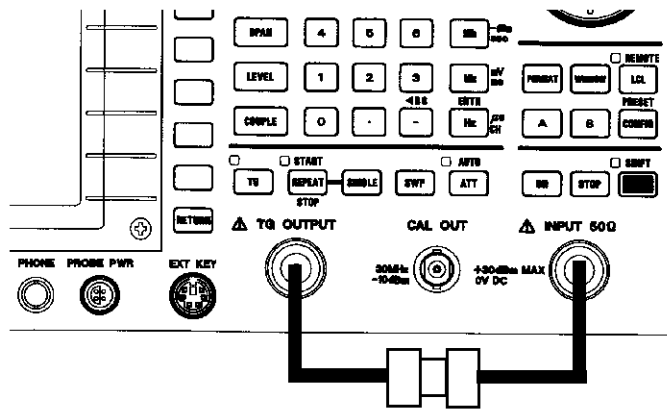

Figure 2-2 Setup for the Amplitude-frequency Characteristics Measurement
1. Connect the measurement cables as shown in Figure 2-2.